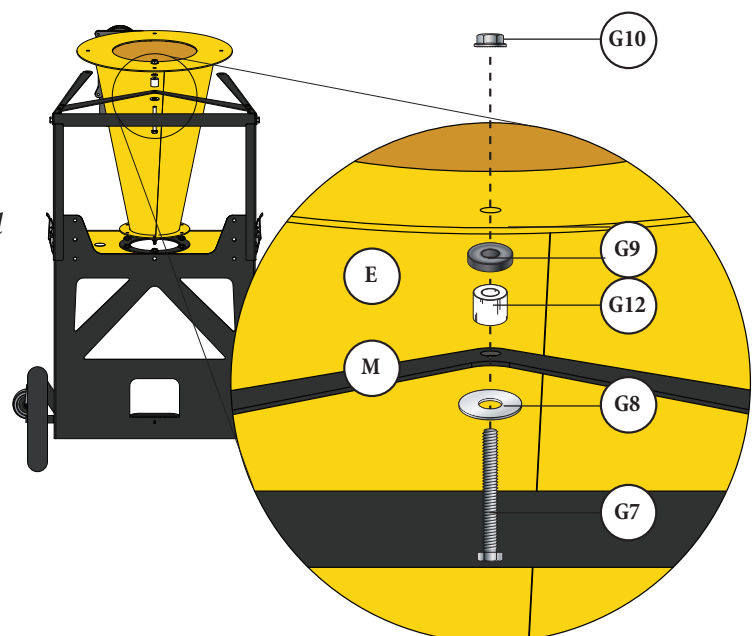

FIG. 11
Secure the Support Brace (L) to the Cyclone (E) using a 2-1/2" Hex Head Bolt (G7), Flat Washer (G8), Nylon Spacer (G12), Rubber Washer (G9), and Whiz-Lock Nut (G10) as shown in [FIG. 11].